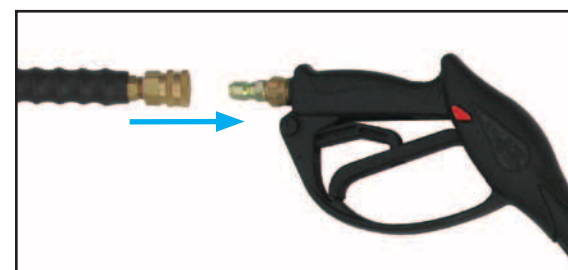

FIGURE 5
1. Attach high pressure hose to spray gun. Pull back on collar of quick-connect, insert fitting and release collar. Pull the high pressure hose to verify that this well-staged. (See Figure 5)